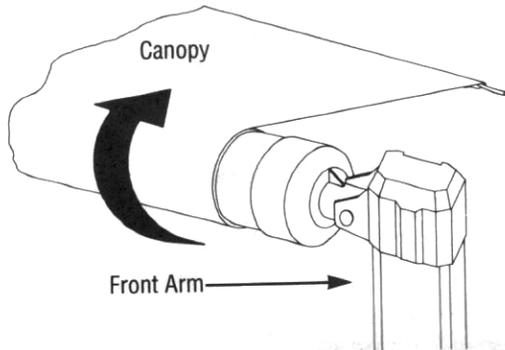

Fig. 4
- Remove tape from around canopy and wind roller towards vehicle until polycord is aligned with awning rail. (See Fig. 4)